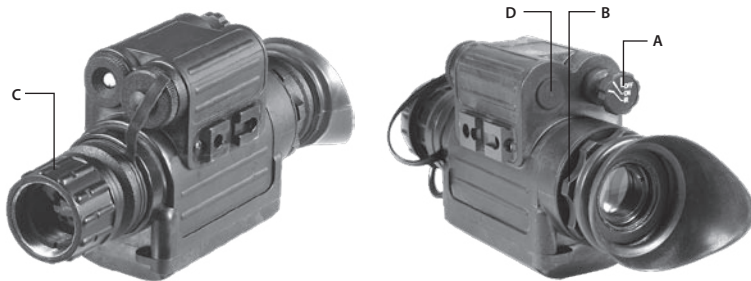

FIGURE 3-12. SPARK CONTROLS
The Spark controls are shown in Figure 3-12.
Function Switch (Figure 3-12, A)	OFF position — the unit is off.
Eyepiece Ring (Figure 3-12, B)	Adjusts the unit diopter. The total dioptric range is covered in a 1/2 ring revolution.
Focusing Ring (Figure 3-12, C)	Focuses the lens. Adjusts for sharpest view of the scene. The total focus range is covered in a 1/3 ring revolution.
Bi-color LED Indicator (Figure 3-12, D)	A GREEN glow indicates that the unit is turned on and ready for operation.
4. Turn the function switch ON. The green indicator light (Fig. 3-12, D) indicates that the unit is ready for operation. After a slight delay, a green glow will appear in the eyepiece of the monocular.